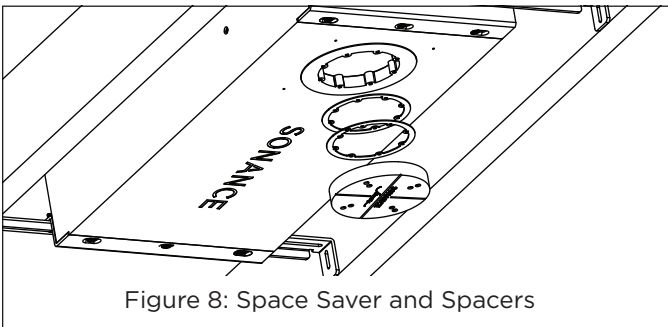

Figure 8: Space Saver and Spacers
- Secure the Space Saver to the stacked spacers and shims to cover the speaker opening using the provided screws (see Figure 8).